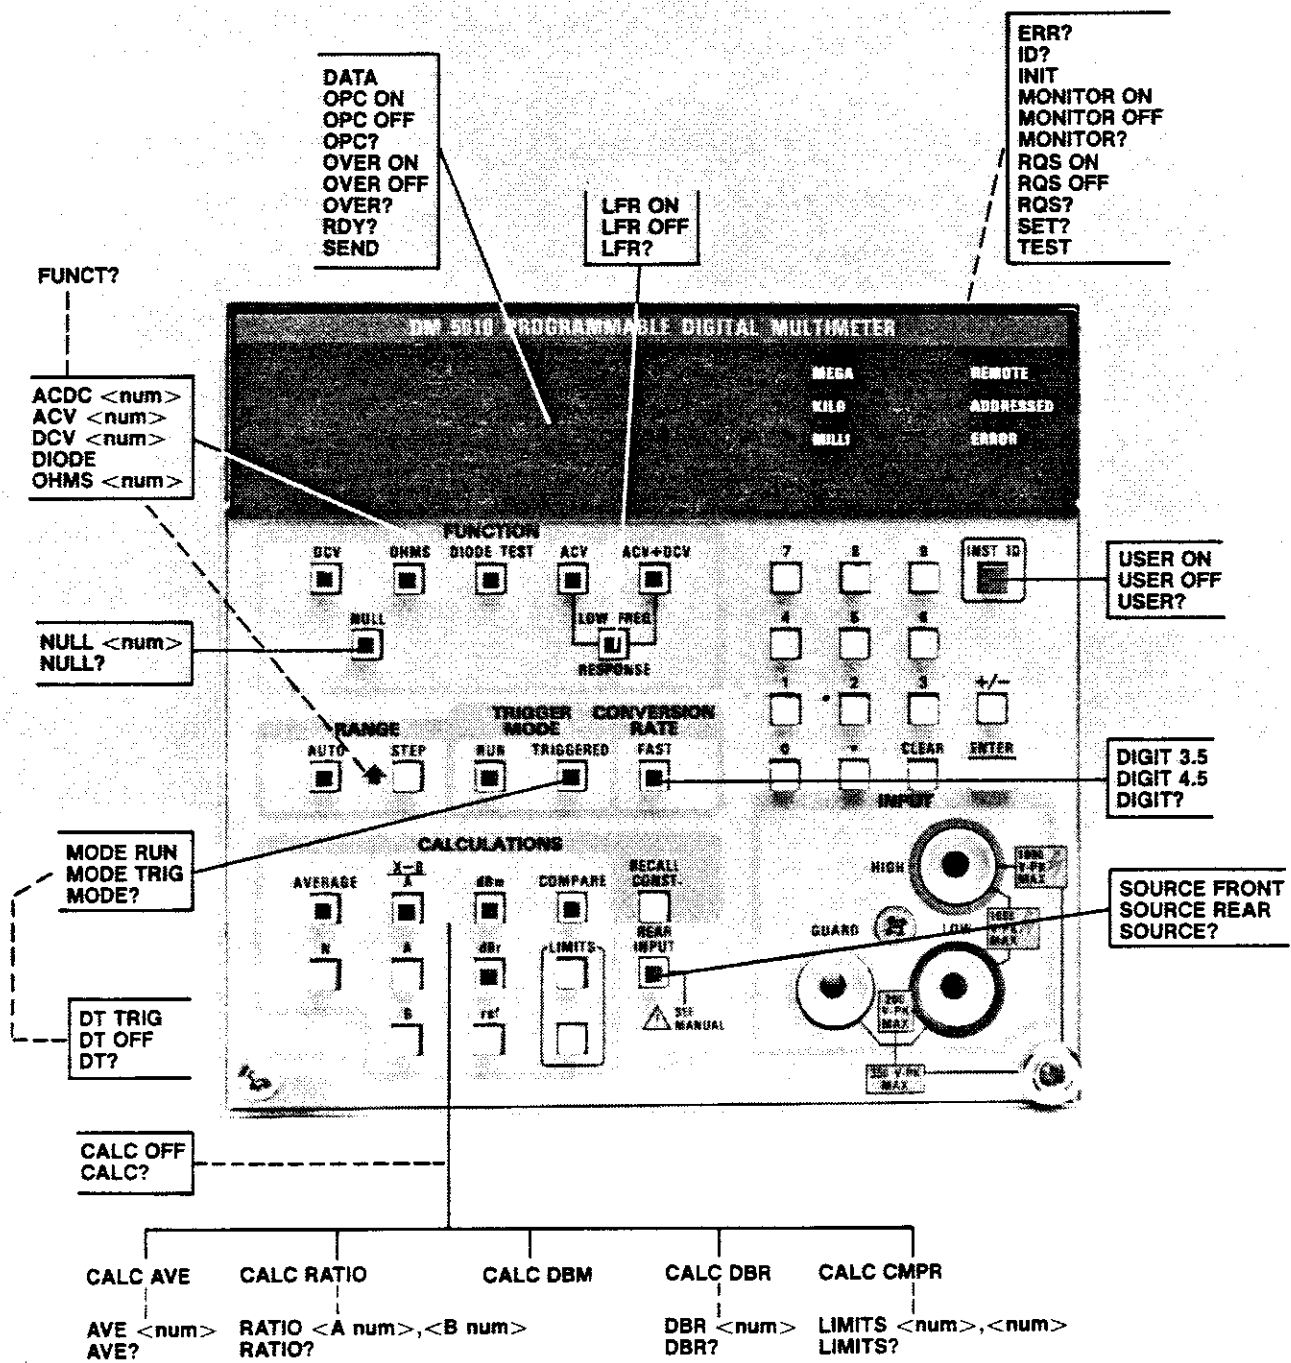

Fig. 3-1. Instrument commands and relationship to front panel controls.
- A front panel illustration—showing command relationships to front panel operation. See Fig. 3-1.